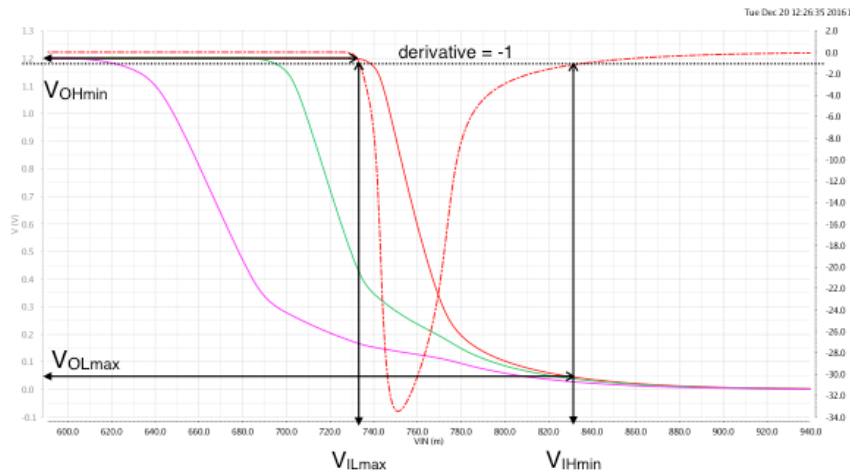

Figure 12.8: VTC with voltages necessary to calculate noise margins for output X indicated.
- b) In Figure 12.8 below the two points that define the four voltages are shown. The resulting values are: For high level  $MNH = V_{OHmin} - V_{IHmin} = 1.19 \text{ V} - 0.832 \text{ V} = 0.358 \text{ V}$ . For low level  $MNL = V_{ILmax} - V_{OLmax} = 0.735 \text{ V} - 0.05 \text{ V} = 0.73 \text{ V}$ . As could be expected from the VTC the noise margins are not very equal so this inverter is not that well designed.